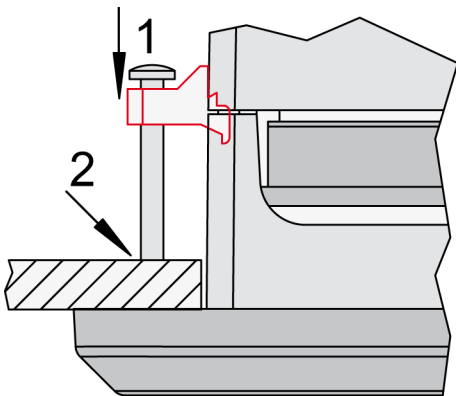

Fig. 22: Tighten clamping screws
6. → Tighten the clamping screws (Fig. 22/1) until the control unit is secured to the control panel (Fig. 22/2). Over tightening of these screws may result in the clamp inserts or the housing breaking. Do not exceed the recommended tightening torque of 0.1 Nm.